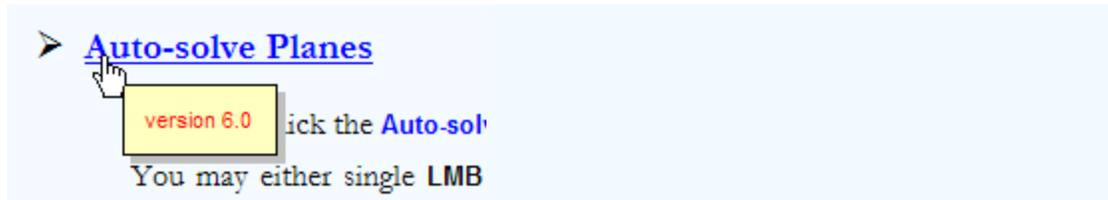

Figure-01
- ◆ You may identify the release version number of the topics you open by single clicking the underlined topic title (*Figure-01*). Click anywhere else on the page to close this information dialog window.